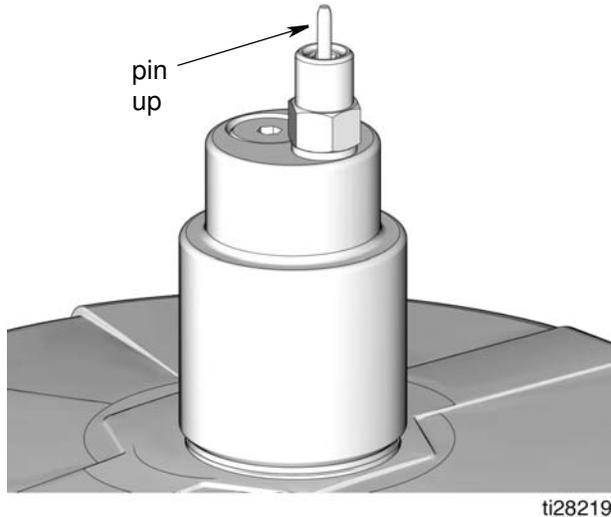

FIG. 26
3. Remove yellow Dust Cover from Fill Coupler (M).
4. Connect Supply Hose (J) between the Remote Filling Station Pump (F) and Fill Coupler port marked with an "I".
5. Start Remote Filling Station Pump (F).
6. When the G3 Reservoir (D) is filled:
- the Remote Filling Station Pump (F) stalls (dead-heads),
- the Auto-Fill Shut Off (B) pin pops up as shown in FIG. 26,
- the Pressure Gauge (R) rises to the fill pump's set pressure.